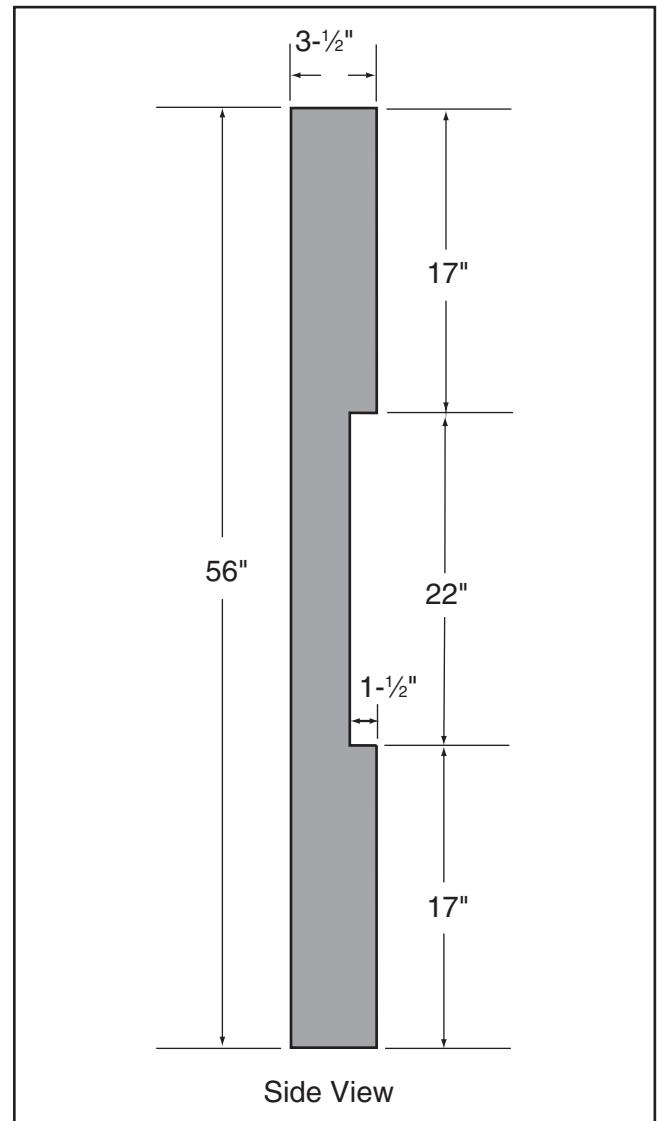

Figure 101. Dimensions of coplanarity gauge.
1. Make the "Coplanarity Gauge" shown in **Figure 101**.